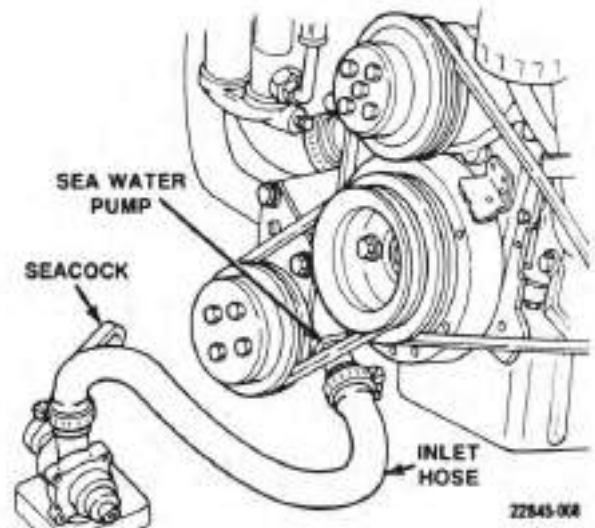

Figure 4-3 – Typical Sea Water Inlet
- Open both engine raw water intake valves. Valves are open when handles are in line with hoses. (See **Figure 4-3.**)
9. Make sure both engine raw water intake valves are open. Valves are open when handles are in line with valve body. Valves are closed when handles are perpendicular to valve body. (See **Figure 4-3**.)